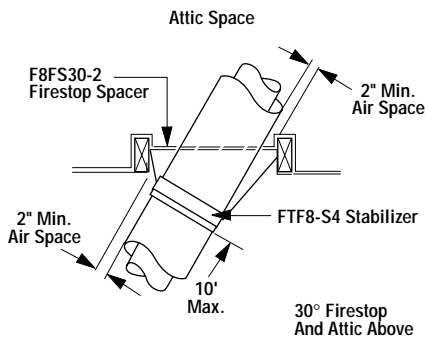
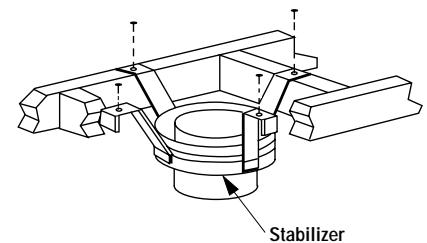

Figure 21
Figure 26
It may be necessary to assemble the chimney at 30° when passing through the floor or ceiling area. Use the F8FS30-2 firestop spacer as shown in *Figures 21 and 22*. Support the chimney at floor or ceiling penetration with a FTF8 stabilizer if distance of chimney below ceiling is 10' or more. Maintain 2" minimum air space to combustibles from chimney sections.
Install Model F8-S4 or F10-S4 stabilizer by fitting inner section down into respective section of proceeding flue pipe and locking outer stabilizer section into place over the outer chimney pipe. Position for proper clearance through framed opening and nail straps securely (under tension in "shear") into place on framing. Use 8d nails or equivalent. Attach successive lengths of chimney pipe directly to stabilizer using same techniques as described in Step 4 (*Figure 26*).
**Step 1.** Use Offset Chart to determine amount of horizontal offset (A) and height (B) for various chimney section assemblies.
**Step 3.** Use Elevation Chart as job estimator only. Add necessary firestop spacers and stabilizers as required. Firestop spacers must be used as shown in Figures 21 and 22 and stabilizers as shown in Figure 26.